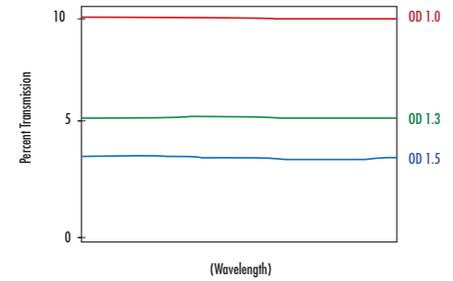

Figure 3: Illustration of Optical Density
Optical Density (OD) describes the blocking specification of a filter and is related to the amount of energy transmitted through it (Equations 1 – 2). A high optical density value indicates very low transmission, and low optical density indicates high transmission. Figure 3 depicts three different optical densities: